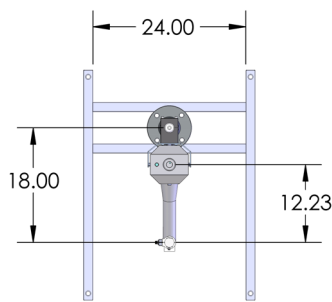

Figure 1
1. The UltraDoser unit can be installed on either side of a production line. Select the side that best suits the workplace. The mounting bracket assembly is installed straight back opposite to the arm from the factory. However, the UltraDoser body can be mounted in the mounting bracket such that the support stand is located on either side perpendicular to the arm (Figures 1 - 3).